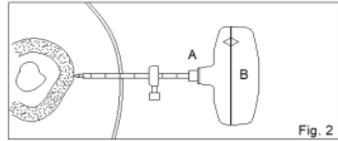

Fig. 2
FIG. 2 Move the depth gauge forward until in contact with the skin, then withdraw it by the desired depth, using the centimeter markings on the Cutting Cannula (A) to provide a visual guide.